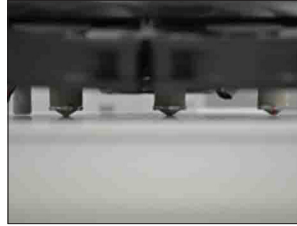
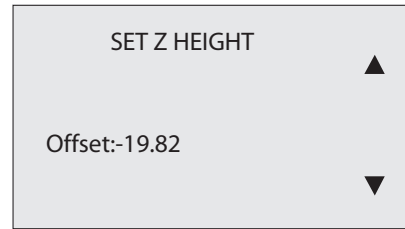

Fig. 107
Fig. 108
- Observe the gap between the print jet and Print Pad from the front of the machine. (Fig. 107) Press and hold the Z +/- buttons to move the Print Pad. (Fig. 108)